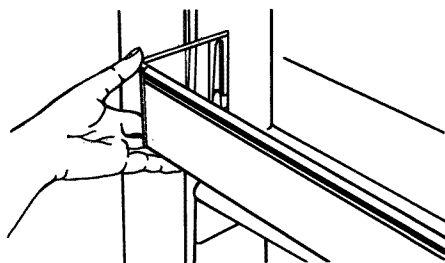

Figure 19
- Pull shelf straight up. See Figure 19.